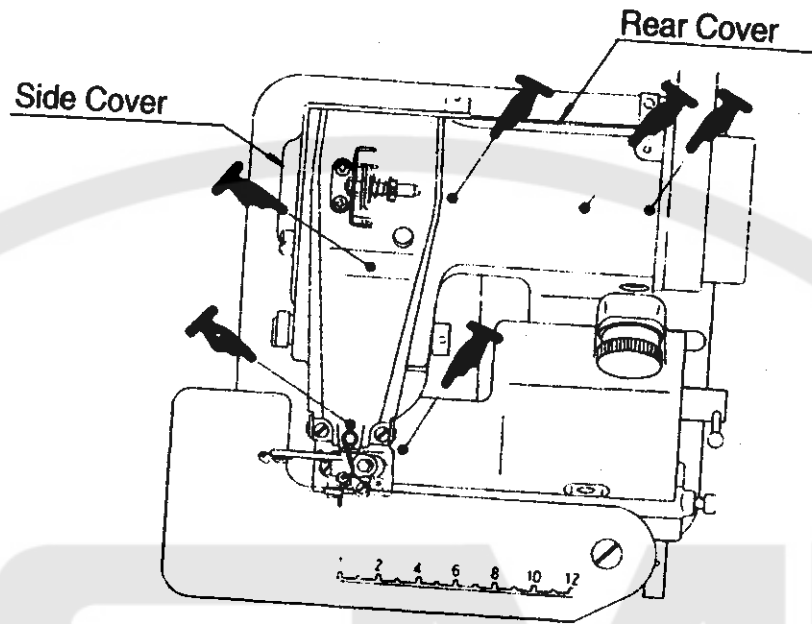

Fig.7
2.Lubrication (Fig.7)
Lubrication is important for the trouble-free operation and long service life of the machine. Therefore, after setting-up machine as per paragraph 1, drop a sewing machine oil into all the holes indicated by arrows on Fig.7, and also drop oil onto the inner moving parts after opening the side cover and rear cover of machine.